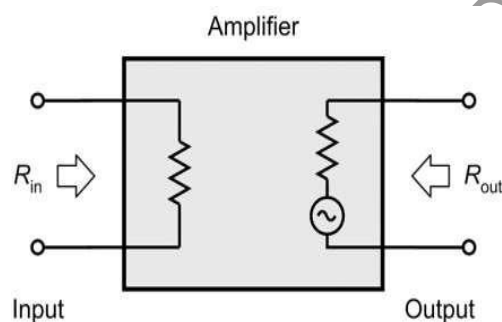

Figure 1.20 The Input and output resistance, with the input and output terminals, respectively.
- The ladder arrangement shown in Fig. 1.20 can be easily extended to provide even higher voltages but the efficiency of the circuit becomes increasingly impaired and high-order voltage multipliers of this type are only suitable for providing relatively small currents.
- Fig. 1.20 shows how the input and output resistances are 'seen' looking into the input and output terminals, respectively.